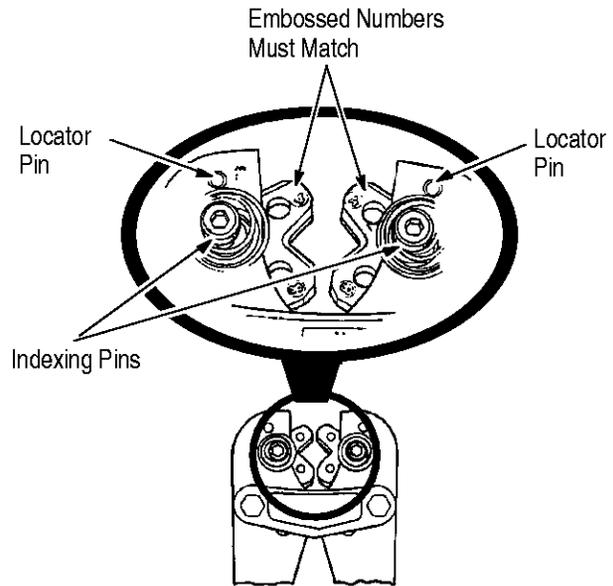

Figure 1
3.1. Die Setting (Figure 1)
4. Release the indexing pins, making sure that the die locator pins return fully and are visible at the points indicated in Figure 1.